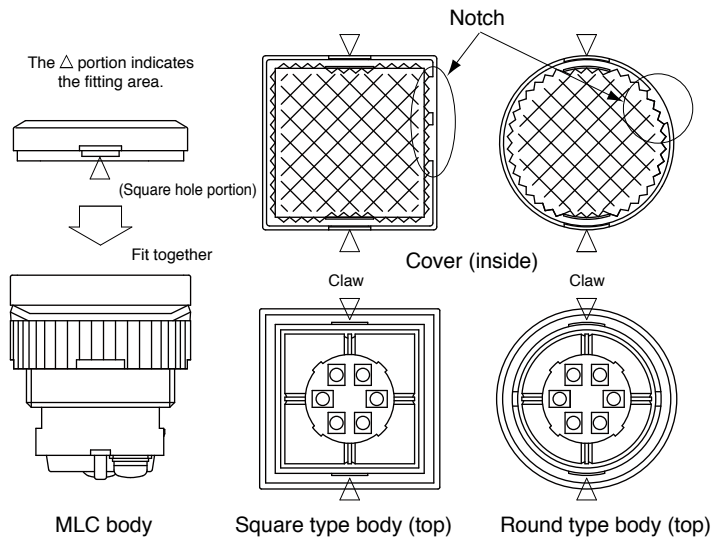

Figure 1: Installing the Diamond Cut Cover
- 1) To exchange the diamond cut cover, fit the portions (square hole and claw portions) as illustrated in Figure 1.